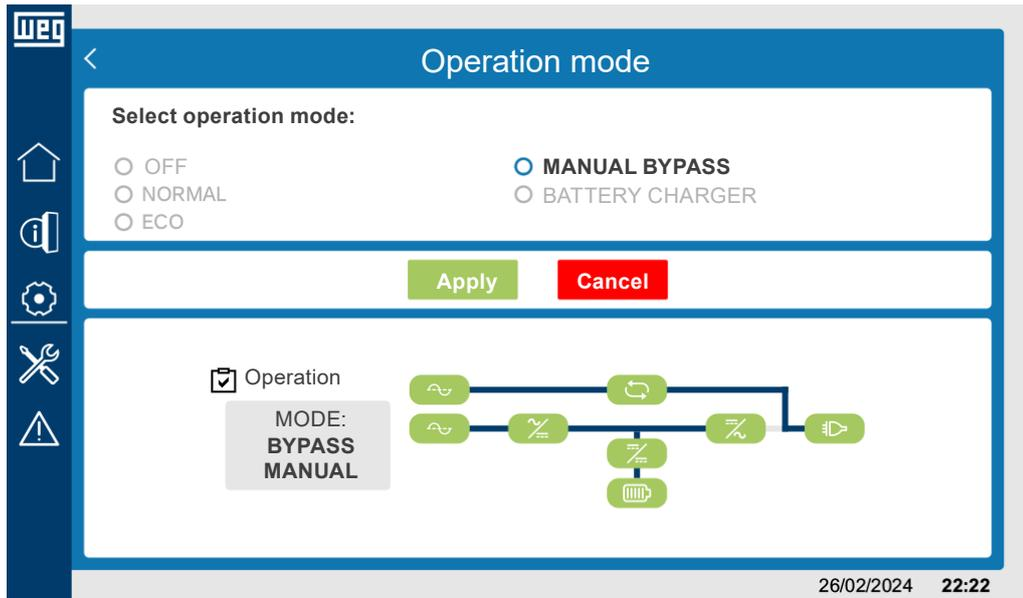

Figure 6.32: Synoptic diagram in manual bypass operating mode
- Battery charger: Figure 6.32 on page 6-23.